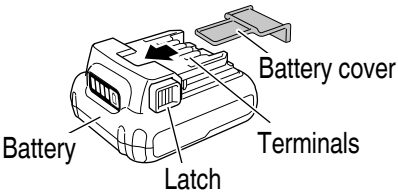

Fig. 3
- Hold the handle tightly and push the battery latches to remove the battery (see Fig. 3, 4).